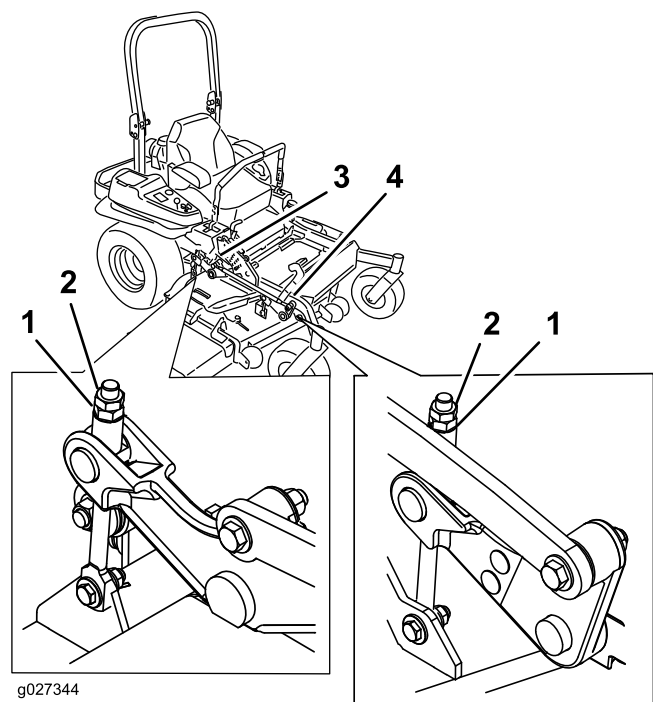
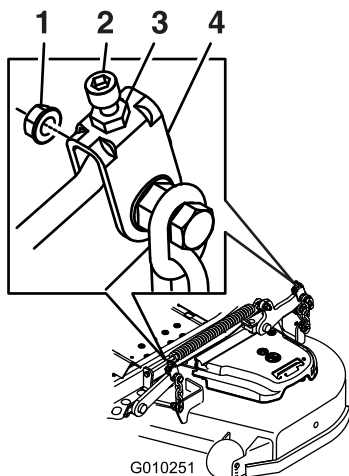

Figure 126
Figure 125
10. Fine-tune the adjustment nut on the front deck-lift assembly by turning it (Figure 125 or Figure 126).
16. Fine tune the screw adjuster by turning it to get 8.3 mm (3-1/4 inches) height (Figure 126).